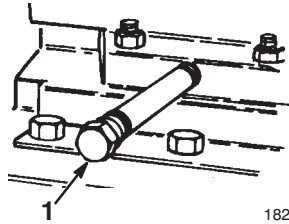

Figure 32
3. Clean the area around the oil drain plug (Fig. 32).